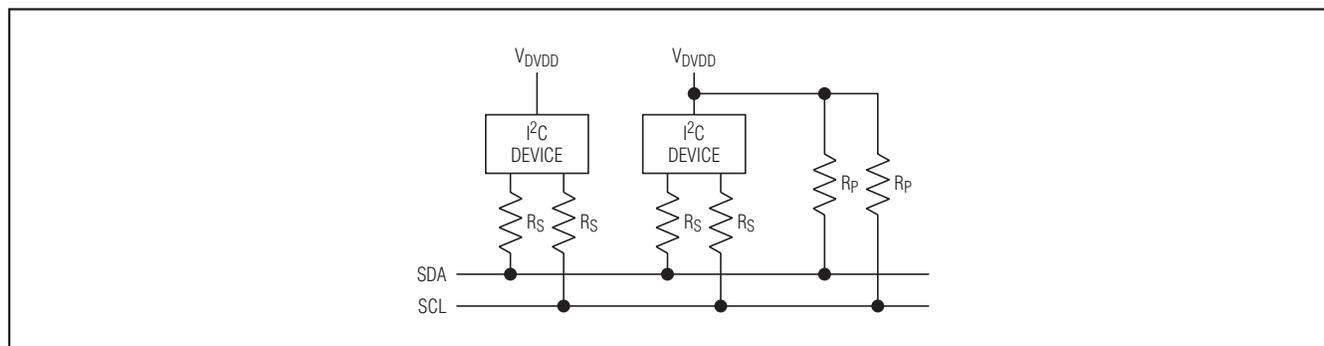

Figure 4. Series Resistors (Rs) for Protecting Against High-Voltage Spikes
(VDVDD = 1.8V to 3.6V, TA = -40°C to +85°C.) (See Figure 4.)
**Note 18:** The maximum fall time of 300ns for the SDA and SCL bus lines as shown in the *I2C Bus Controller Timing* table is longer than the specified maximum tOF\_I2C of 250ns for the output stages. This allows series protection resistors (Rs) to be connected between the SDA/SCL pins and the SDA/SCL bus lines as shown in the *I2C Bus Controller Timing (Acting as I2C Slave)* table without exceeding the maximum specified fall time. See Figure 4.